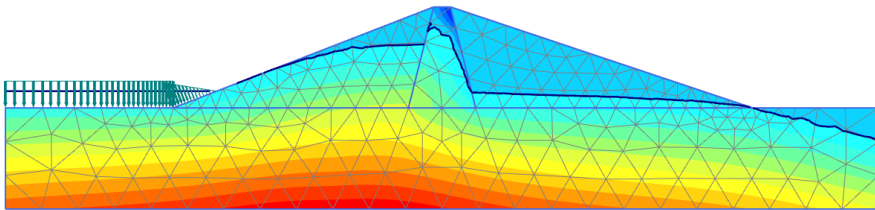

Figure 8.15 Pore pressure distribution, ( $p_{active}$ ), after rapid drawdown
- The pore pressure distribution after rapid drawdown of the reservoir level (Figure 8.15).